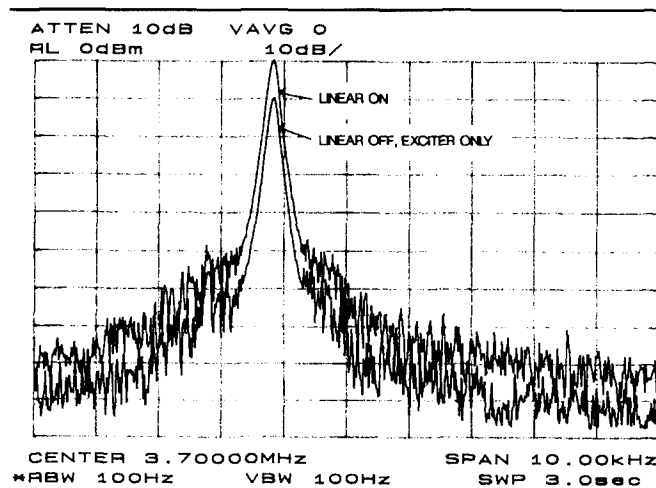

Fig 3—Single tone
b) Single Tone—a 1.2-kHz tone is injected into the MIC port and the exciter is set on LSB. The resultant signal in Fig 3 appears as a single RF frequency 1.2 kHz below the previous carrier frequency. There is no apparent carrier which indicates that the carrier suppression is >60 dB, nor is there evidence of the unwanted upper sideband indicating USB suppression of >70 dB. Again, the linear appears to simply act as a 10-dB gain stage at all frequencies.